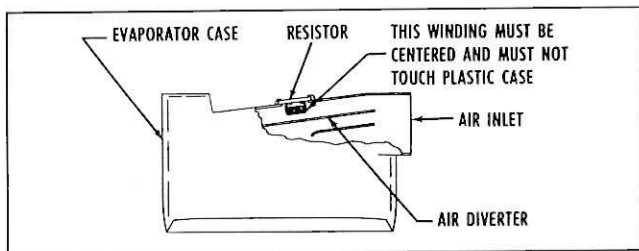

Fig. 10—Cool-Pack Blower Switch Resistor
1. Low blower speed is provided through a resistor located in the evaporator case. (fig. 10). The resistor winding, visible in the evaporator air inlet before the blower ducting is assembled, must not touch any portion of the evaporator case.